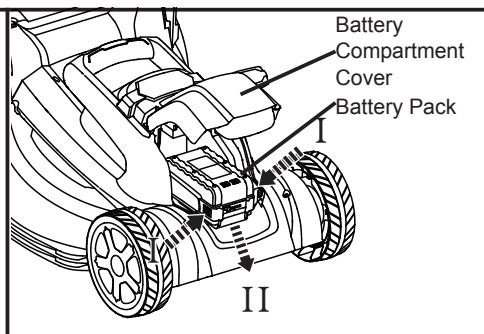

Fig. 11
2. Press the release button on the battery pack, grasp the battery pack firmly and pull out of the battery compartment cover (Fig. 11).